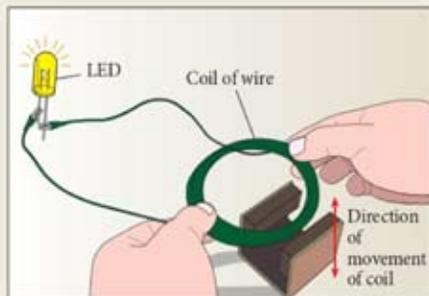

Figure 1
3. A coil of wire is moved in the direction of the arrow through the space between two magnets as shown in Figure 1.